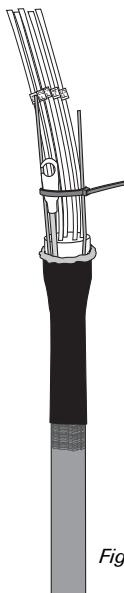

Figure 20
19. With the CV1981 hot-air gun on setting 6, begin shrinking the tube around the top of the funnel. After recovering 1" of tube on funnel, pause for 15 seconds to allow the adhesive to set on the funnel. Complete shrinking the tube and apply additional heat to the center of the tube to melt the adhesive rings. (Figure 20)